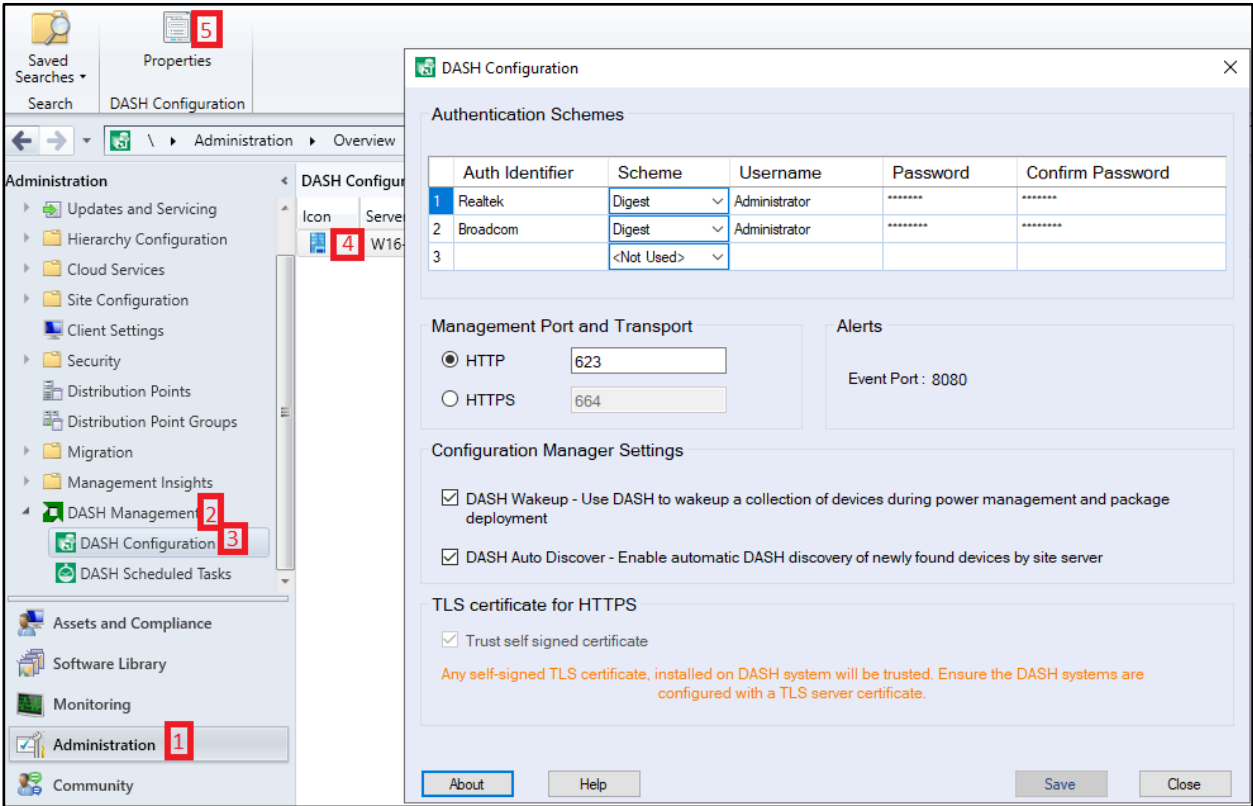

Figure 110: Opening the DASH Configuration window.
1. In the MEM console, navigate to \Administration\Overview\DASH Management\DASH Configuration. Go to DASH Configuration then click on Properties as per Figure 110.